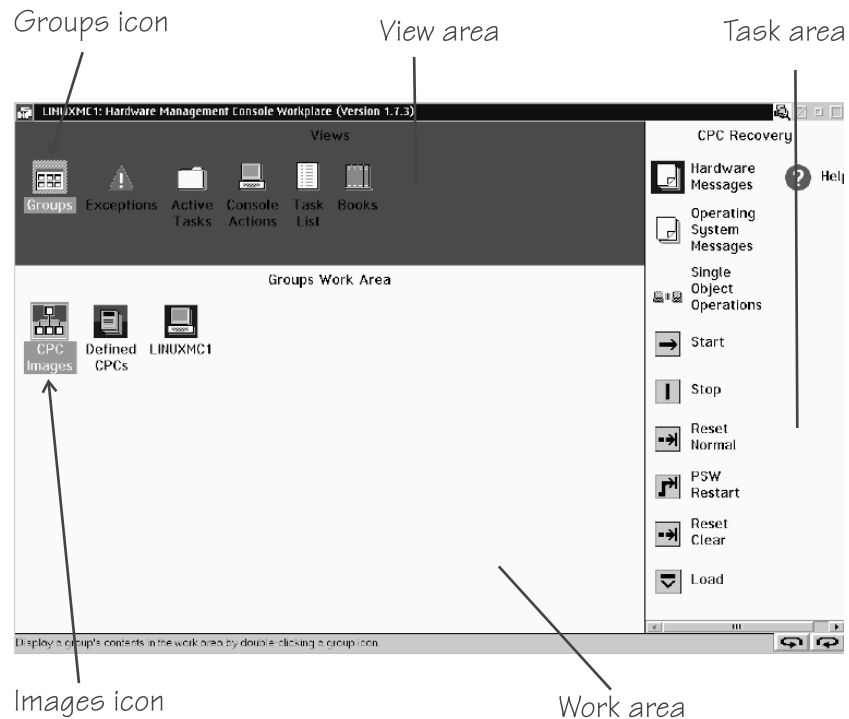

Figure 71. Groups Work Area on the HMC
1. Click the Groups icon in the "Views" area of the HMC to display the "Groups Work Area" (Figure 71 on page 357).